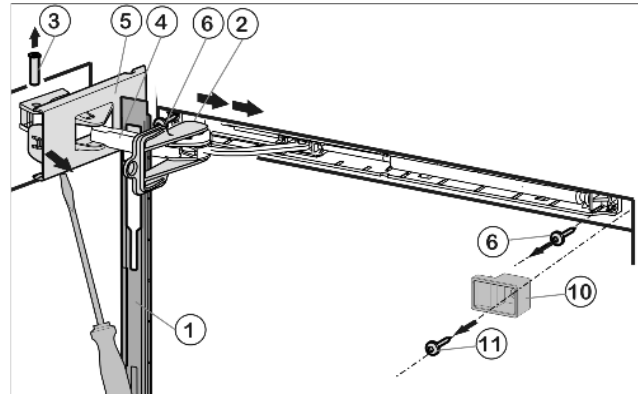

Fig. 39
- ▶ Unscrew spacer *Fig. 39 (10)*.
- ▶ Push panel forward over the damper bracket *Fig. 39 (4)* in the direction of the appliance.
- ▶ Engage locking device *Fig. 39 (2)* into place inside oblong hole.
- ▶ Unscrew cover that is on the hinge side *Fig. 39 (5)* until the first notch using a screwdriver.
- ▶ Push bolt *Fig. 39 (3)* out from below.
- ▶ Press damper bracket *Fig. 39 (4)* in the direction of the door.
- ▶ Completely loosen cover that is on the hinge side *Fig. 39 (5)* and remove.
- ▶ Remove panel *Fig. 39 (1)*.
- ▶ Unscrew soft stop unit (2 x Torx 15) *Fig. 39 (6)*.
- ▶ Tighten spacer Fig. 39 (10).